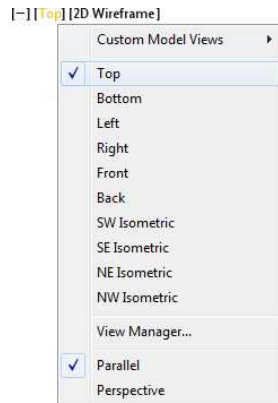

FIGURE 10.47: Restoring the preset Top view from the In-Canvas Viewport Control toolbar
22. Click the View Controls menu (currently displayed as [Top]) from the In-Canvas Viewport Control toolbar, and select Top (see Figure 10.47).